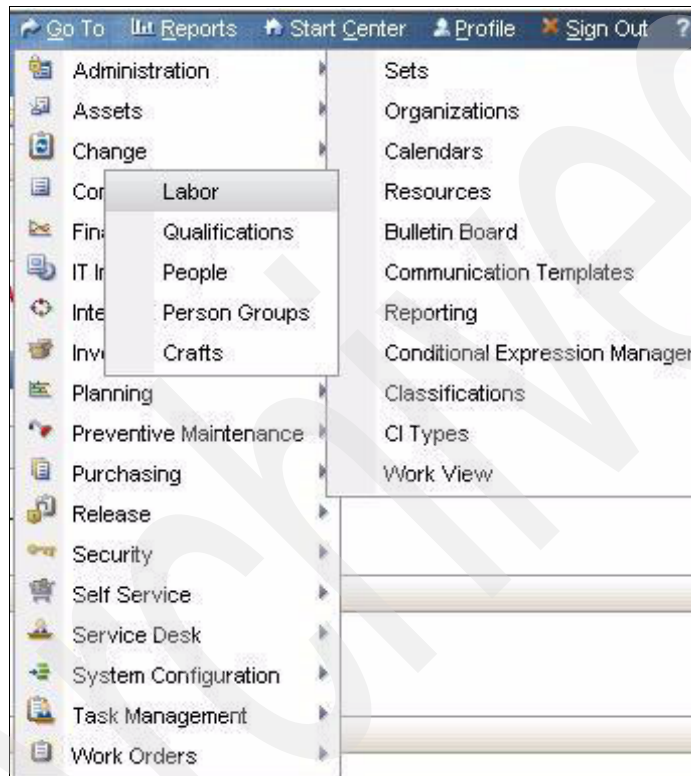

Figure 6-4 Report menu
- From the Reports menu in the application tool bar, select an application - for example, **Labor** (see Figure 6-4).